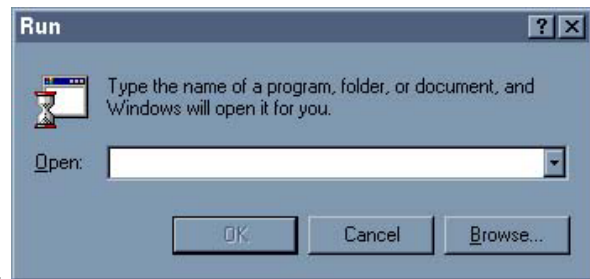

Figure 3-3
2. Click on **Start→Run** (or **File→Run** if you are using Windows 3.x) to display the Run dialog box (Figure 3-3).